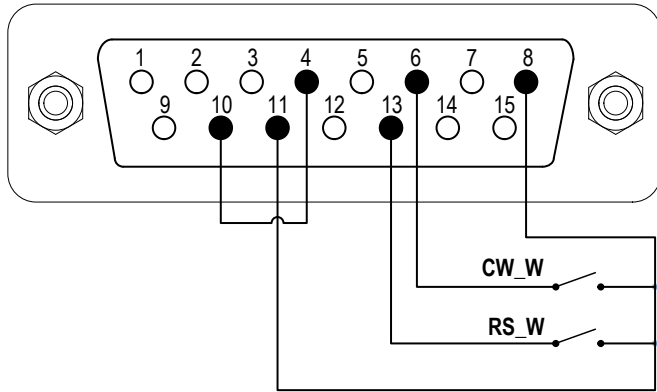

Figure 22. Logic Level 2 Control with the Internal 12V Power Source
- 1) Switch the power off. Wire the DB15 connector as shown in Figure 22